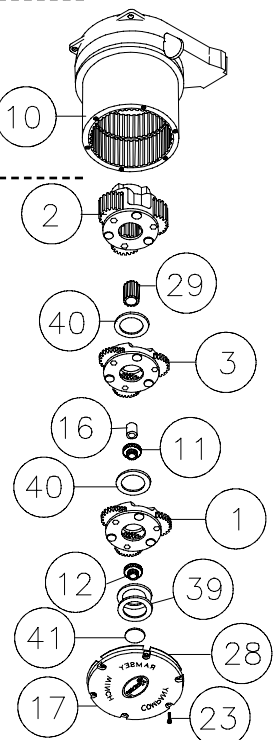
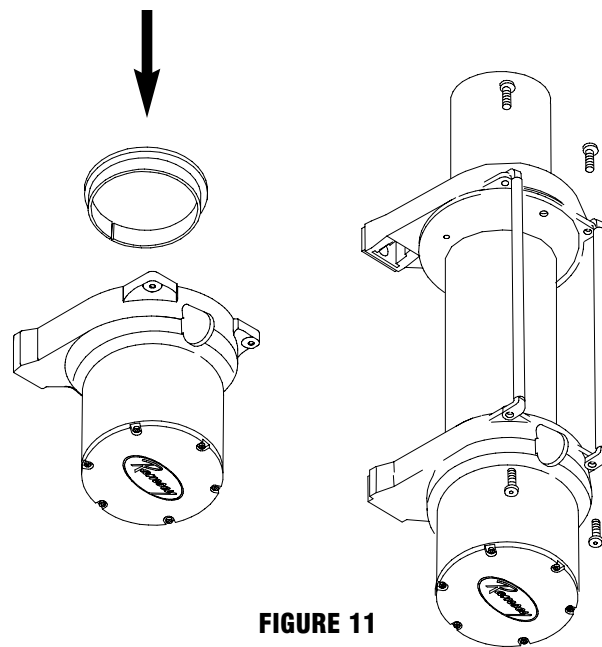

FIGURE 8
FIGURE 11
3. Gently lift the Gear Housing assembly, working the gears, bushings, etc. that are inside the Gear Housing out so that they are left stacked on the workbench. See Figure 8.
4. Turn the Gear Housing assembly over and set on workbench. Remove the Retainer (item #37) by removing six capscrews (item #21) from Gear End Bearing (item 13). Once the retainer is removed, the Ring Gear (item #10), Cam Ring (item #36), and Locking Ring (item #34) can be lifted off the end bearing.
8. Reassemble Gear Housing as shown in Figure 8. Make sure locking ring is positioned with stop post at marked location. The capscrews (item #38) for the retainer should be tightened to 40-45 in-lbs. **Do not over-tighten.**
9. Place Gear Housing over the stacked gears, etc. that you removed in step 3. Gently work the housing over the stack, turning it as needed to mesh the planetary gears with the ring gear in the housing. Once they are all in the housing, flip the assembly over. Align the Gear Housing Cover and gasket with the holes in the ring gear. Replace the (6) capscrews that hold the Gear Housing Cover onto the Gear Housing. Tighten securely.
11. Turn the Gear Housing over and set it on the work bench with the Gear Housing Cover down. See Figure 11.